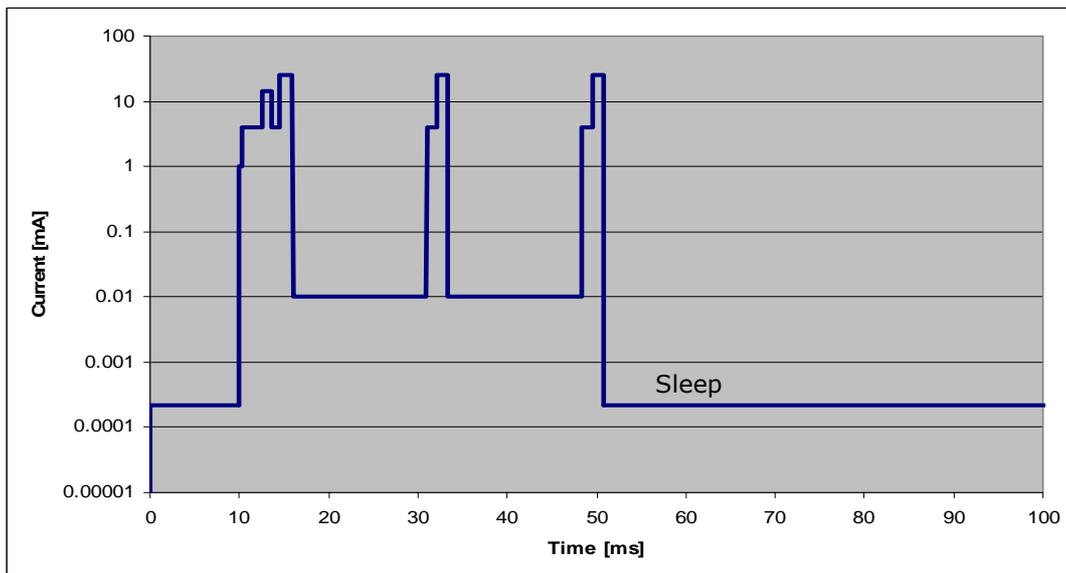

Fig.1: Current Consumption of STM 300(C)
Background: in sleep mode the supply current of the STM 300(C) module is typically 0.2 μA . In operation the current consumption strongly depends on the frequency of wake ups and radio transmissions, so the average current over time has to be considered for calculation of the module average current consumption, see Fig.1 below, more details see chapter 2.11 of the STM 300(C) User Manual.